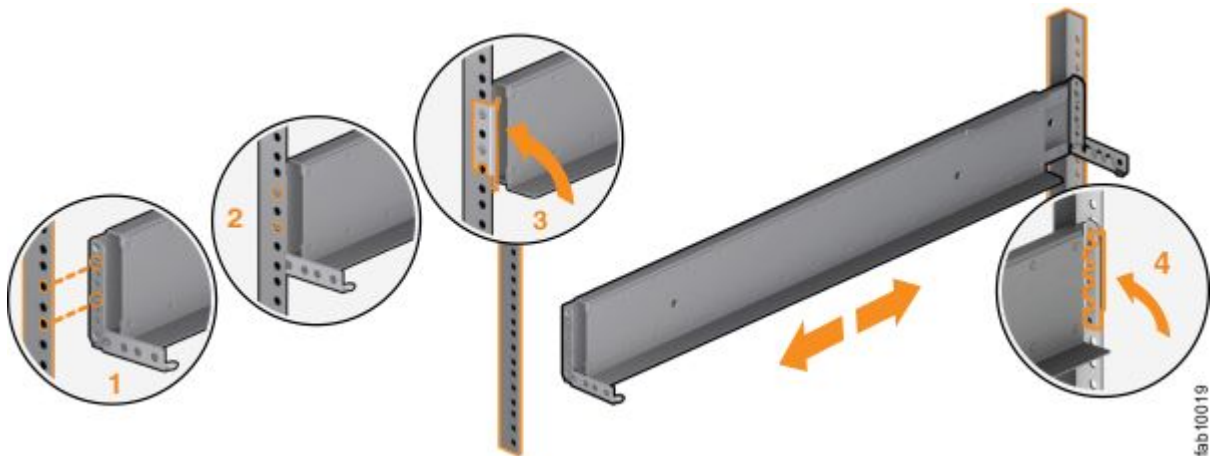

Figure 16. Closing the hinge brackets
- Step 8. Close the rear hinge bracket to secure the rail to the rack cabinet flange. (See Figure 16 “Closing the hinge brackets” on page 18.)
- Step 10. Close the front hinge bracket to secure the rail to the rack cabinet flange. (See Figure 16 “Closing the hinge brackets” on page 18.)